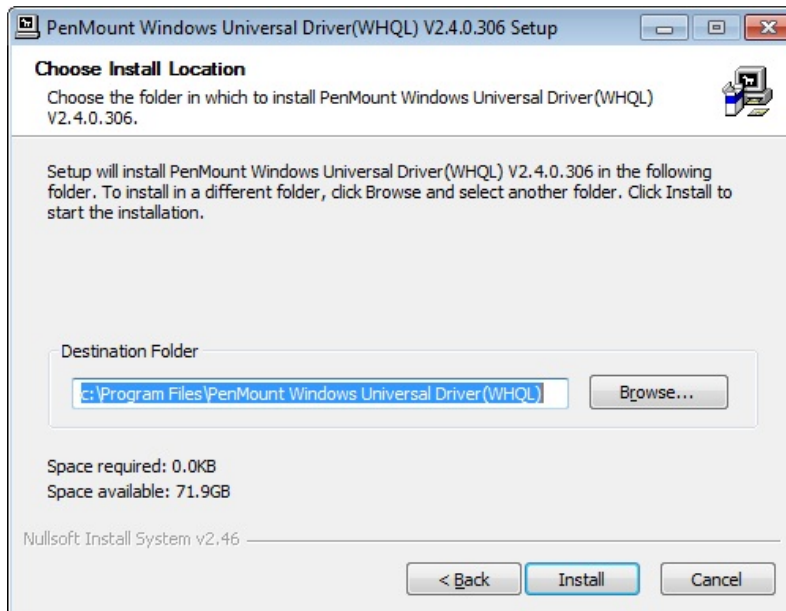

Figure 6-32: Choose Destination Folder
Step 8: Select the destination folder where the setup files will be copied to (**Figure 6-32**).